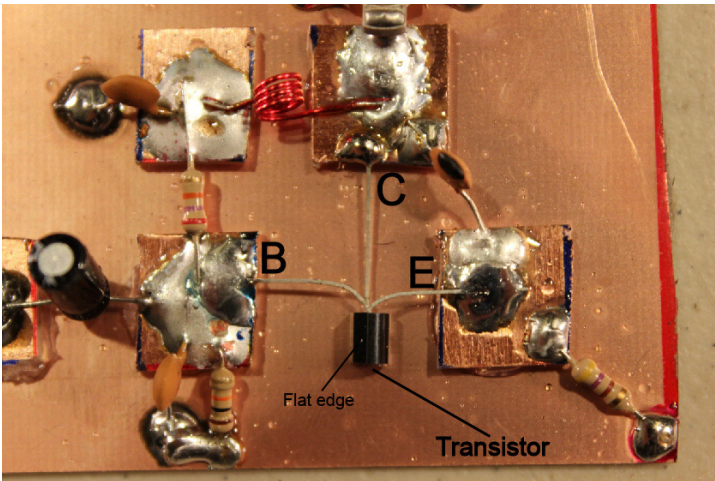

Figure 18
- The B lead (base) goes to the bottom center square, the C lead (collector) goes to the top right square, and the E lead (emitter) goes to the bottom right square. (See figure 18 + 19)